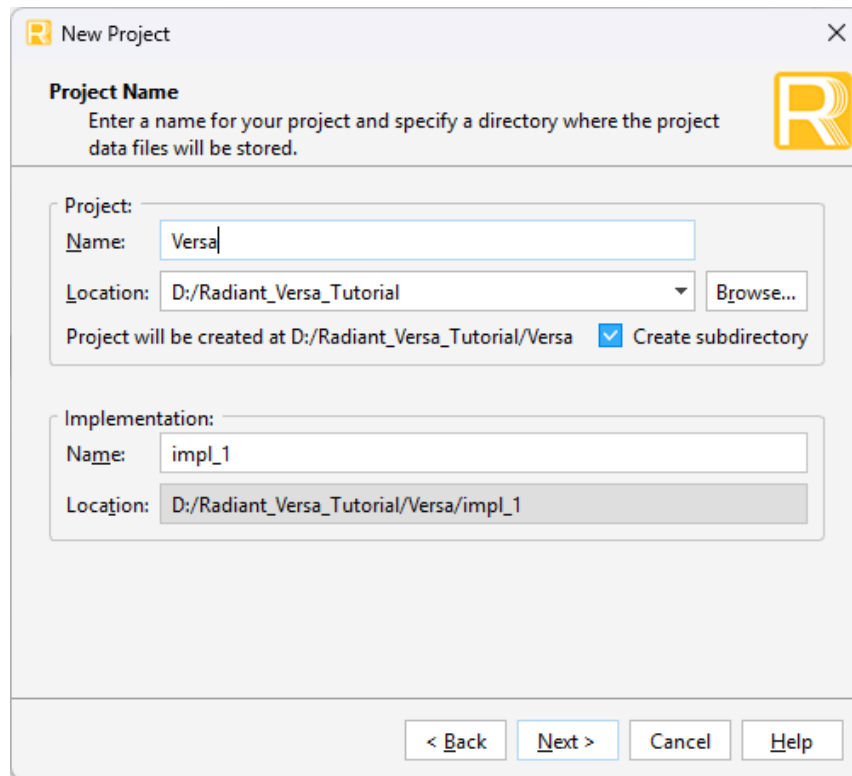

Figure 4: New Project wizard (Project name & directory setting)
5. Click **Browse**. In the Project Location dialog box, browse to where you want to store the project's files, such as D:/Radiant\_Versa\_Tutorial, as shown in Figure 4. Click **Select Folder**.